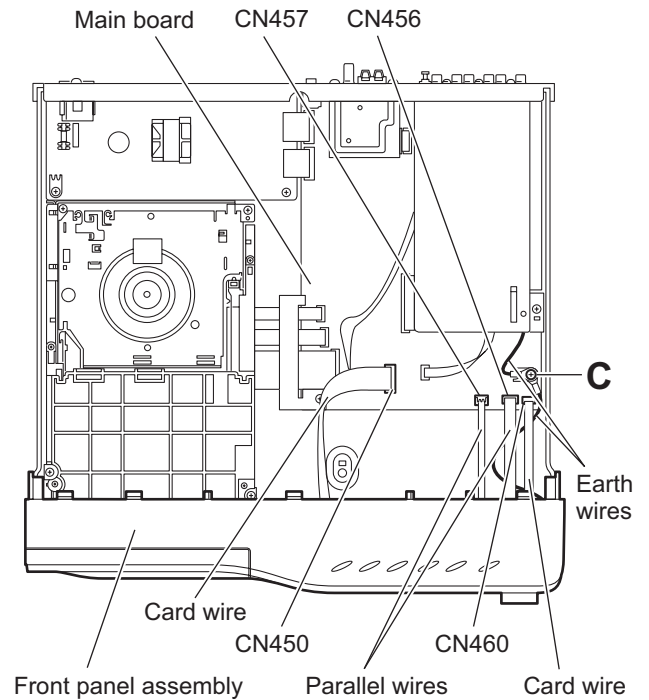

Fig.5
### 3.1.2 Removing the front panel assembly (See Figs. 5 and 6)
- (1) From the top side of the main body, disconnect the parallel wires from the connectors (CN456, CN457) on the main board. (See Fig. 5.)
- (2) Disconnect the card wires from the connectors (CN450, CN460) on the main board. (See Fig. 5.)
- (3) Remove the screw **C** attaching the earth wires to the main board. (See Fig. 5.)
When attaching the screw **C**, attach the earth wires with it. (See Fig. 5.)